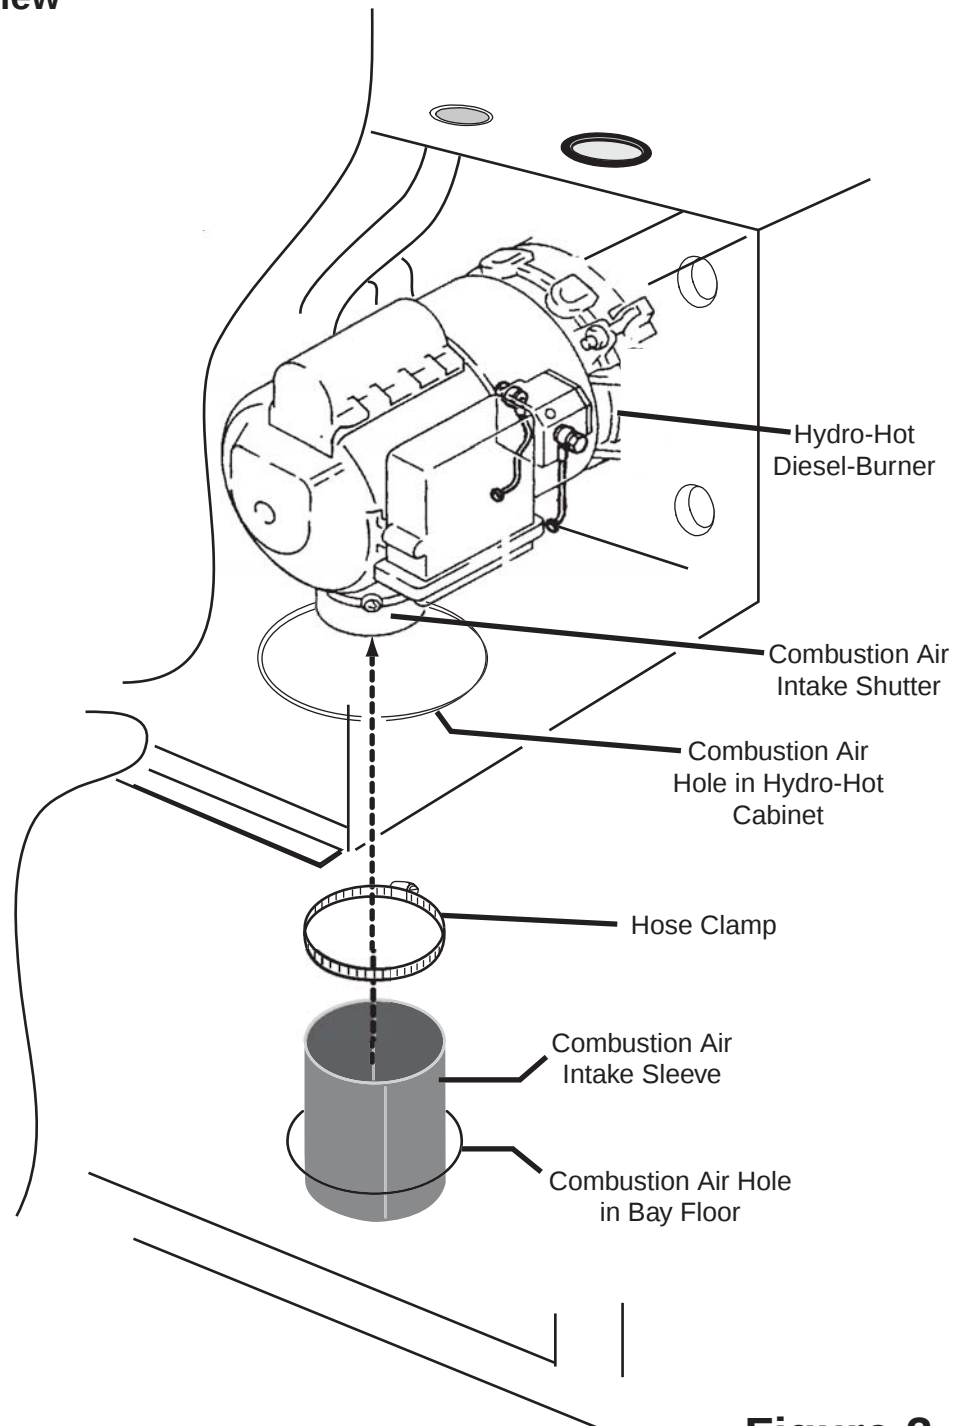

Figure 3
6. Install and tighten the Combustion Air Intake Sleeve onto the Diesel-Burner's Combustion Air Intake Shutter using the Hose Clamp, see Figure 3.
NOTE: The Combustion Air Intake Sleeve **MUST BE INSTALLED** in order to comply with the UL 307A listing, see Figure 3.